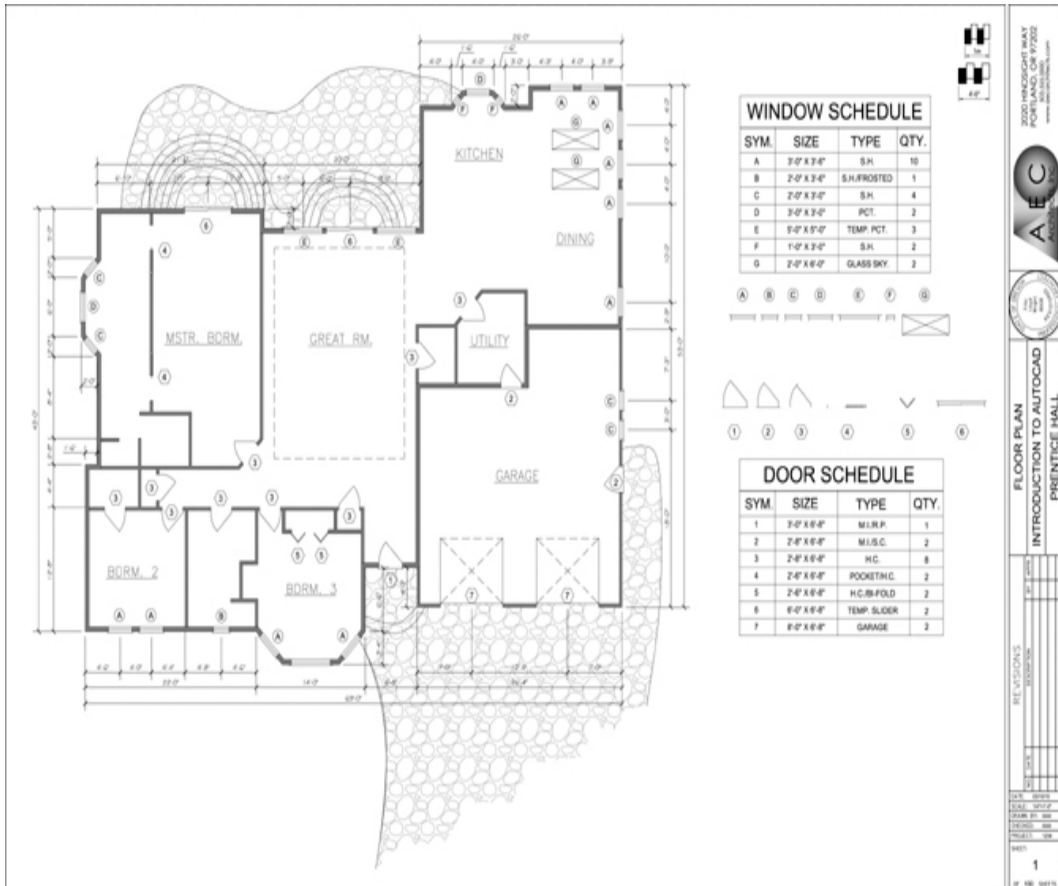

Figure 17-54
- Insert the drawing **Title Attributes D-Size.dwg** as a block. Place the block at **0,0** at a scale of **1** and a rotation angle of **0**. Enter appropriate values for the title block attributes. Your drawing should look like Figure 17-54.